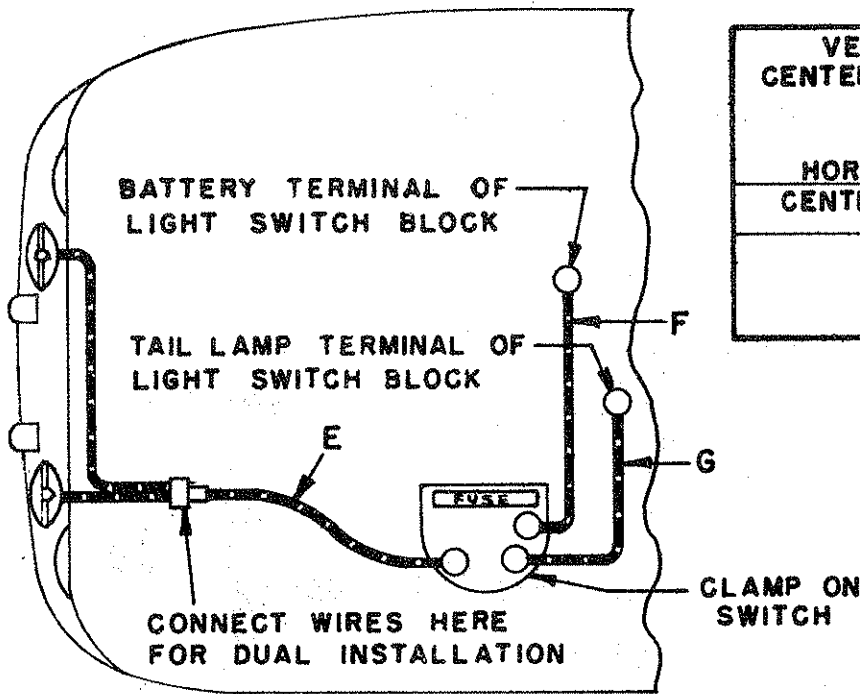

FIGURE 3
1. Bring cable from left hand lamp through grill under the hood. Do the same with cable from right hand lamp, bringing this cable across to meet cable from left hand lamp, and connect both cables to double end of "Y" connector. See Figure 3 above.
2. Connect long cable from bag (E—Fig. 3) to single end of "Y" connector, then bring this cable through wall behind motor, usually through hole or grommet where other cables go through wall.
4. Bring cable (See "E" in figure 3) up to Fog Light Switch and attach to terminal indicated.
5. Attach one end of short wire furnished (See "F" in figure 3) to Battery Terminal at end of Fuse Block on Fog Light Switch and connect with Battery Terminal (Live Side of Ammeter) on Light Switch Block.
6. Attach one end of other short wire furnished (See "G" in figure 3) to Tail Lamp Terminal on Fog Light Switch and connect with Tail Lamp Terminal on Light Switch Block. (If preferred this wire can be spliced into tail lamp wire.)